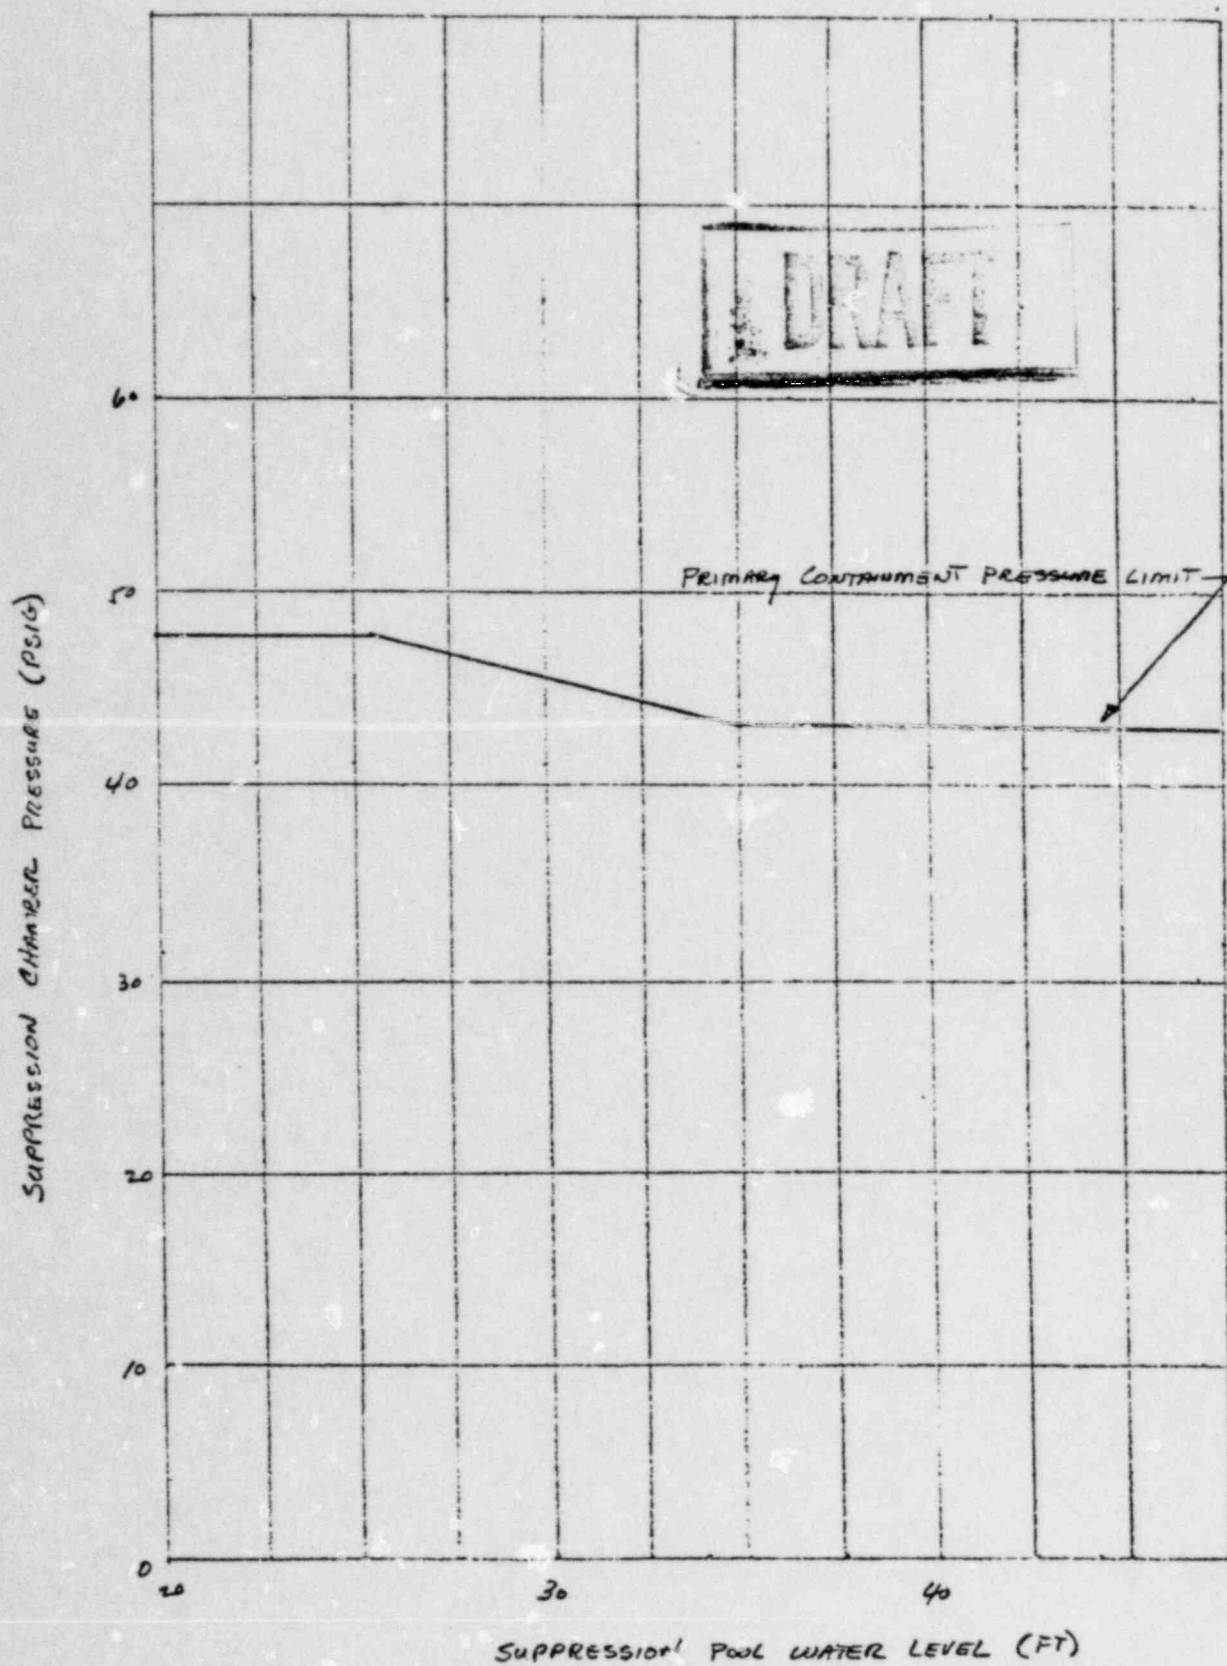

FIG 2
3.7 If suppression chamber pressure cannot be maintained below the primary containment pressure limit, Fig. 2, initiate the following systems irrespective of whether adequate core cooling is assured: